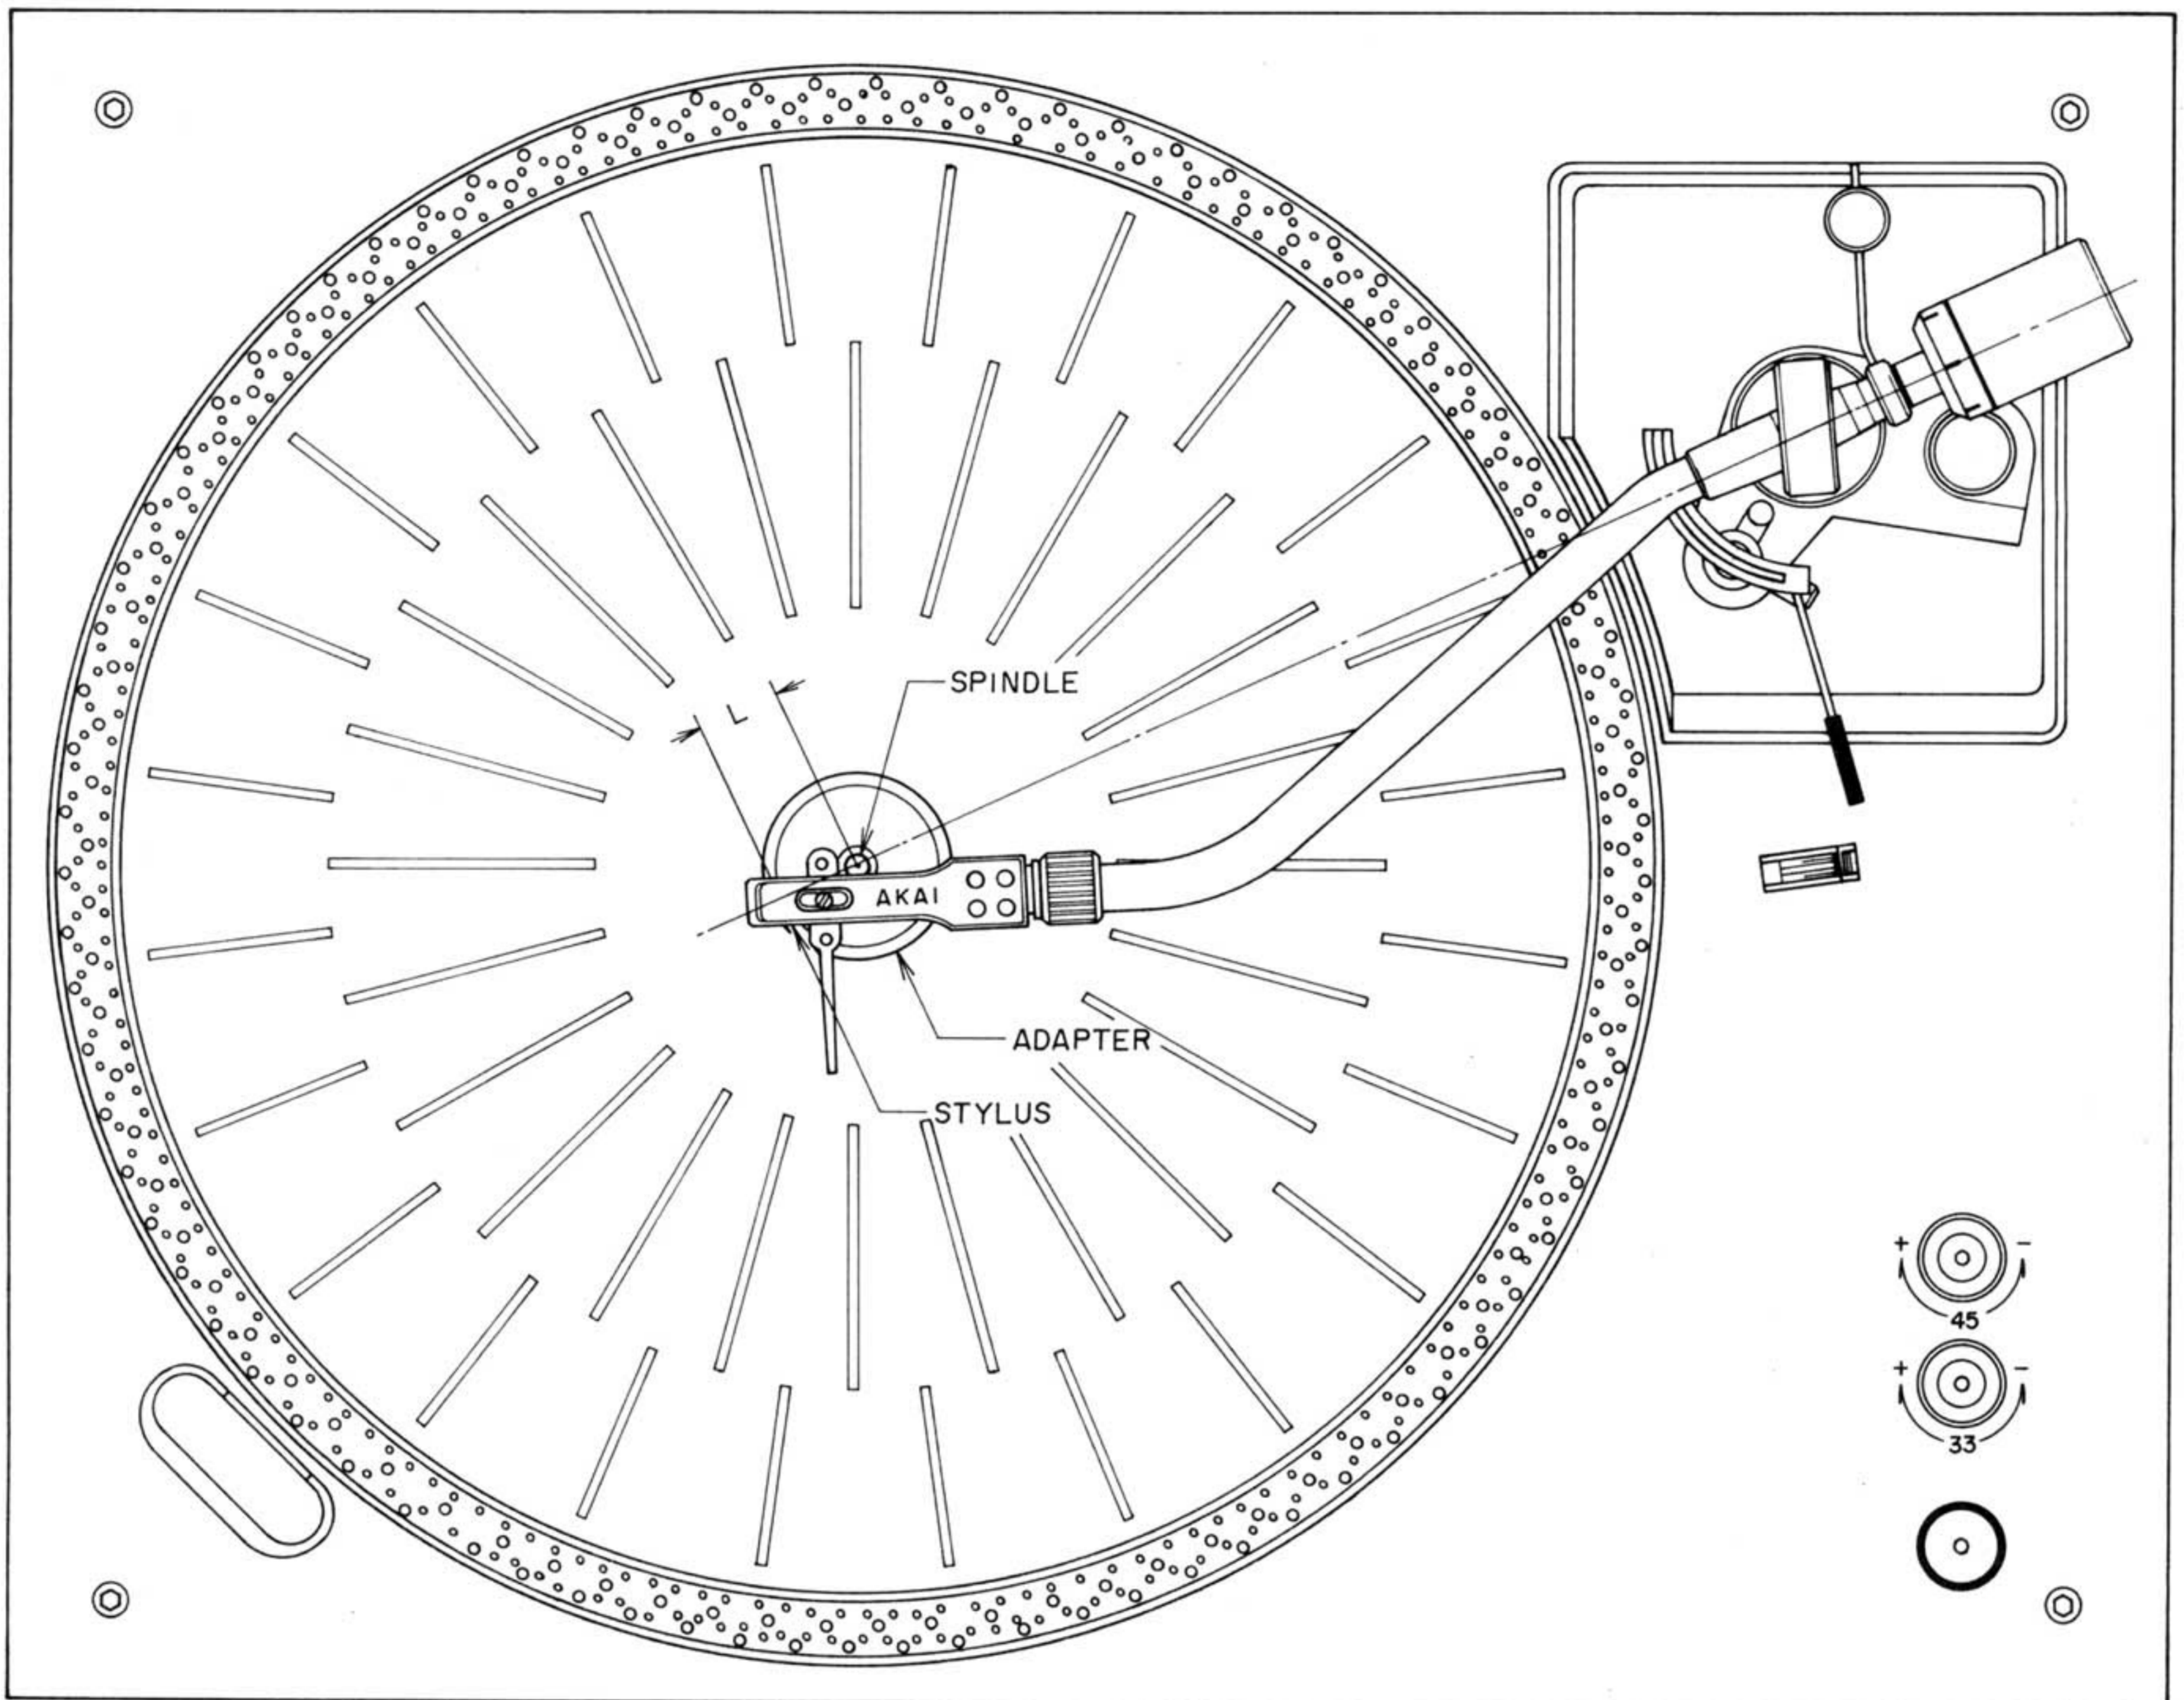

Fig. 8 Overhang Adjustment
5. OVERHANG ADJUSTMENT (Refer to Figs. 8 and 9)